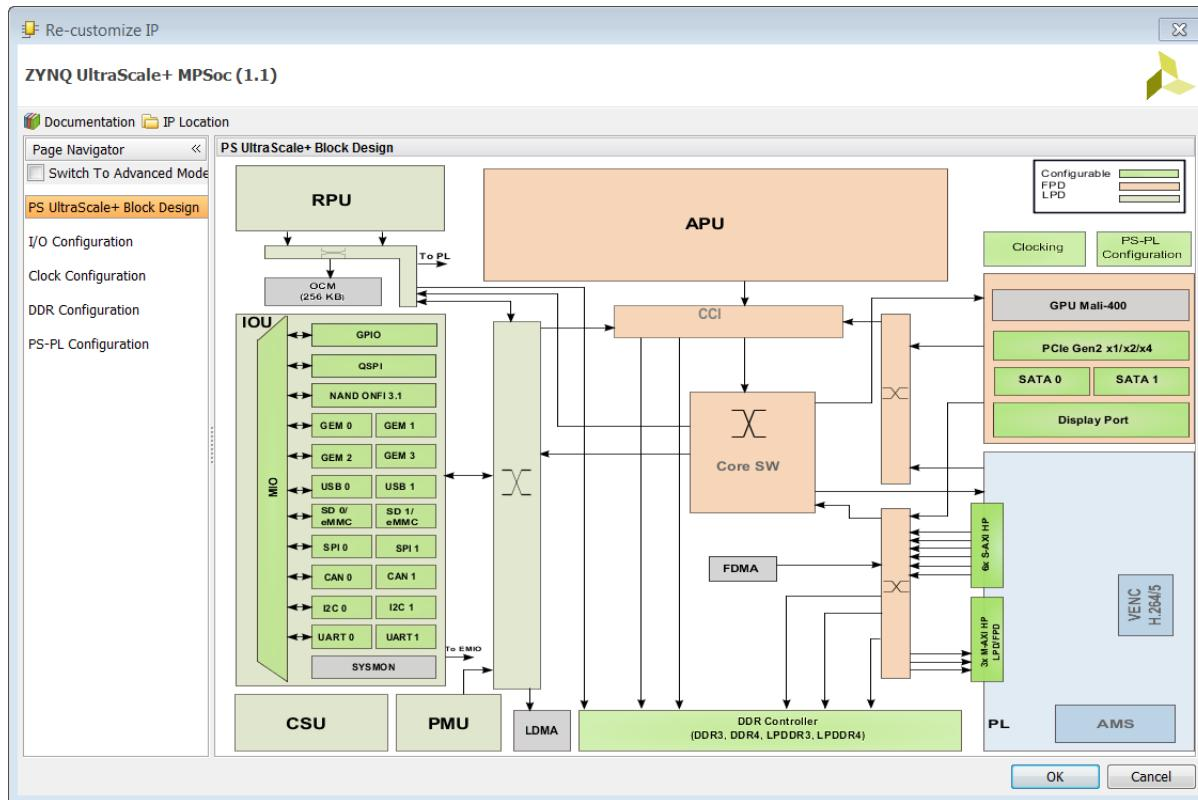

Figure 3-3: ZYNQ UltraScale+ MPSoC Configuration Dialog Box
2. Double-click the processing system graphic to invoke the **Re-customize IP** process, which displays the Re-customize IP for the Zynq UltraScale+ MPSoc dialog box as shown in Figure 3-3.
Alternatively, you can select the options from the Page Navigator on the left, as shown in Figure 3-3.